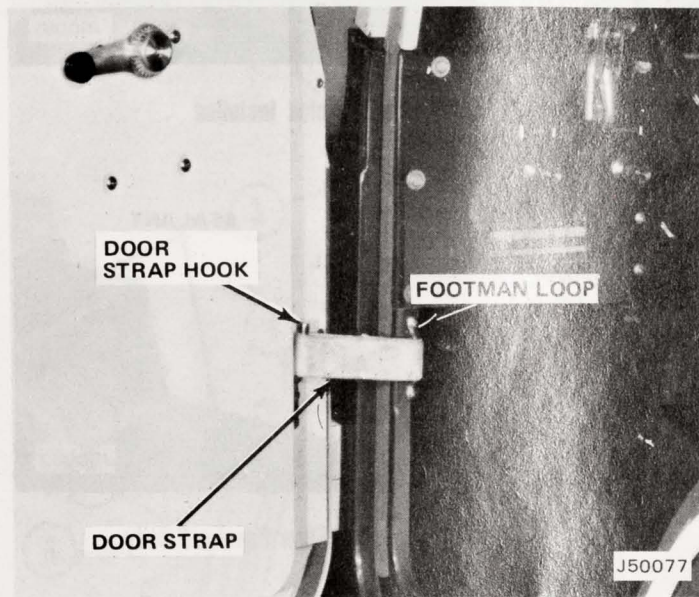

Fig. 2-9 Door Strap and Footman Loop Installed
(1) Slip one end of door strap onto each door strap hook (fig. 2-9). Insert footman loop into opposite end of each door strap. Position each footman loop on its respective body flange. Locate door strap so it is horizontal.
(2) Use footman loops as templates and mark hole locations on each body flange with a center punch. Drill 7/32-inch holes through each flange at locations marked.
(3) Attach each footman loop to its respective body flange with oval-head screws and locknuts. Check for proper alignment and tighten.